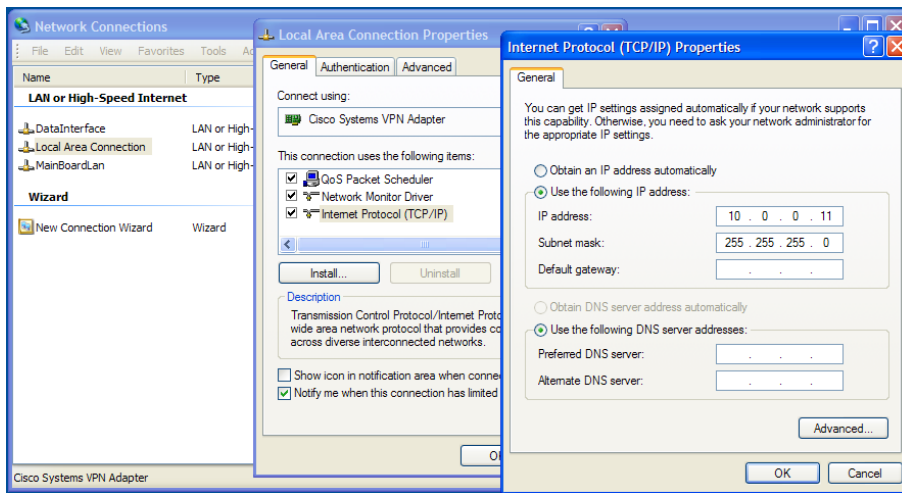

Figure 8.2 Setting static IP address 10.0.0.11 in Windows XP
1. Connect an Ethernet cable directly between the PC and the Ethernet control port of the TNS544. Configure the PC to be on the same sub net as the TNS544. See Figure 8.2.
The screen-shot in Figure 8.2 shows how to configure the network interface in Windows XP to communicate with the TNS544 with factory default settings. The IP address/netmask